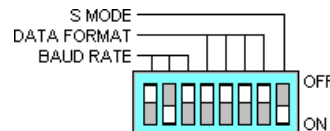

Figure 11.2
1. Power off the NI Instrument Simulator and configure it to communicate through GPIB by setting the following left bank of switches (Figure 11.2) on the side of the box.